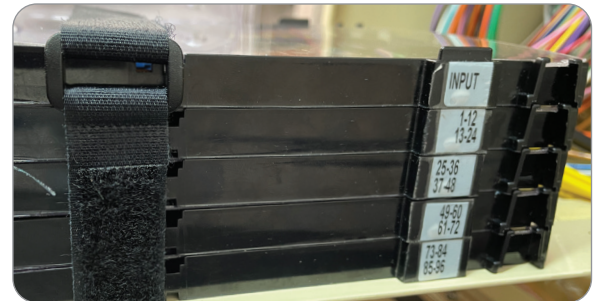

Figure 14
2. Ensure the tubes are brought to the correct trays. The trays are labeled on their sides (Figure 14).